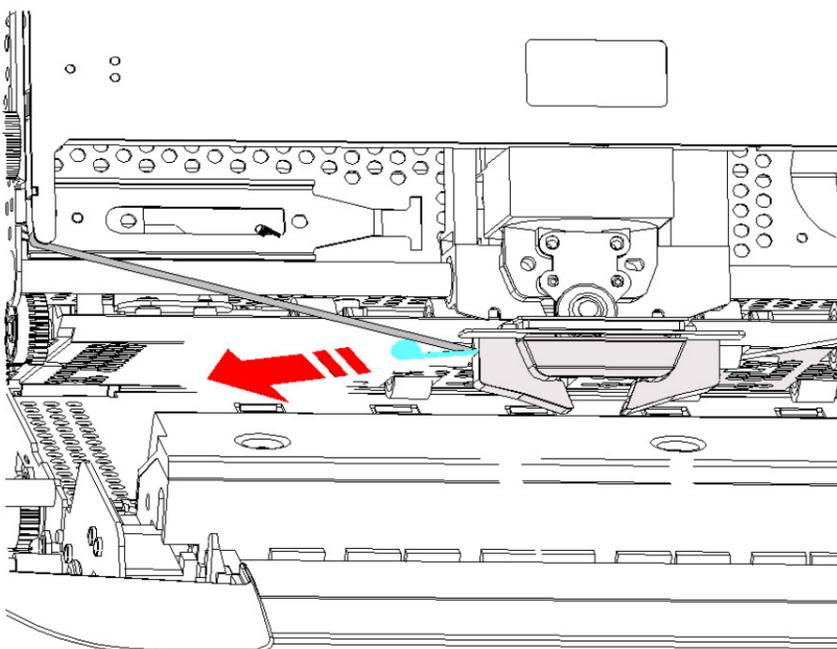

Figure 1.5-5
- Take out of the protective foil as shown in figure 1.5-5.